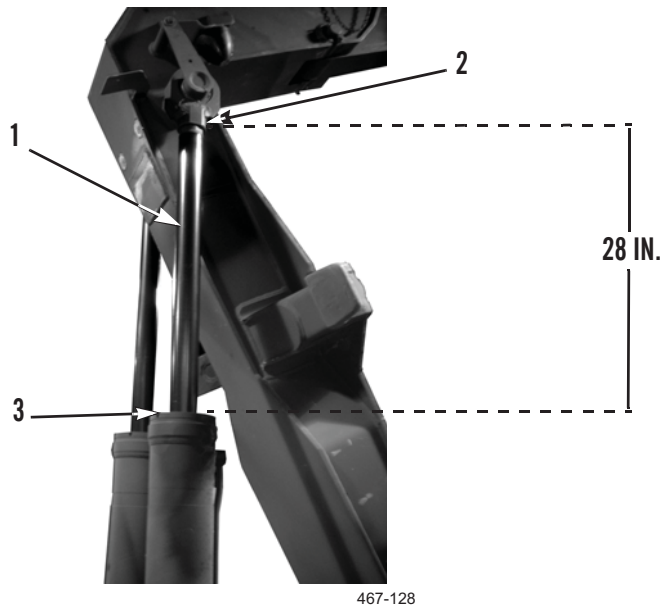

Figure 15. Hook Arm Cylinder Extension.
3. With MODE switch set to AUTO position, partially extend hook arm (PLS: TM 9-2320-364-14&P, HEMTT: TM 9-2320-326-14&P) until cylinder arm (Figure 15, Item 1) is extended 28 in. (711 mm) measured from base of cylinder arm cap (Figure 15, Item 2) to top of cylinder casing (Figure 15, Item 3).